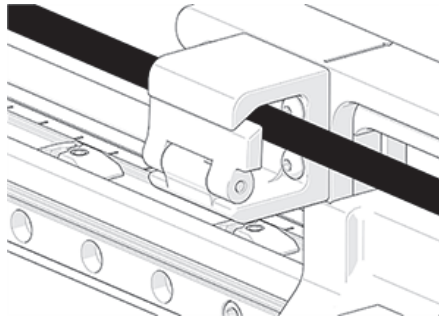

Figure 3-15 Carrier cable clip
2. Insert the necessary cables and hoses (see Figure 3-15 on page 49).